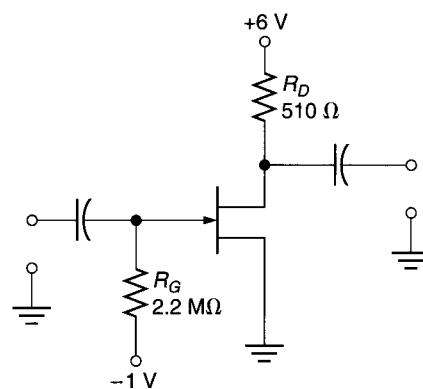

FIGURE 12.55
18. The 2N3438 (described in Problem 12) is used in the circuit shown in Figure 12.55. Determine the range of  $I_D$  values for the circuit. (*Hint*: See the margin note under *A Practical Consideration* on page 471 of the text.)